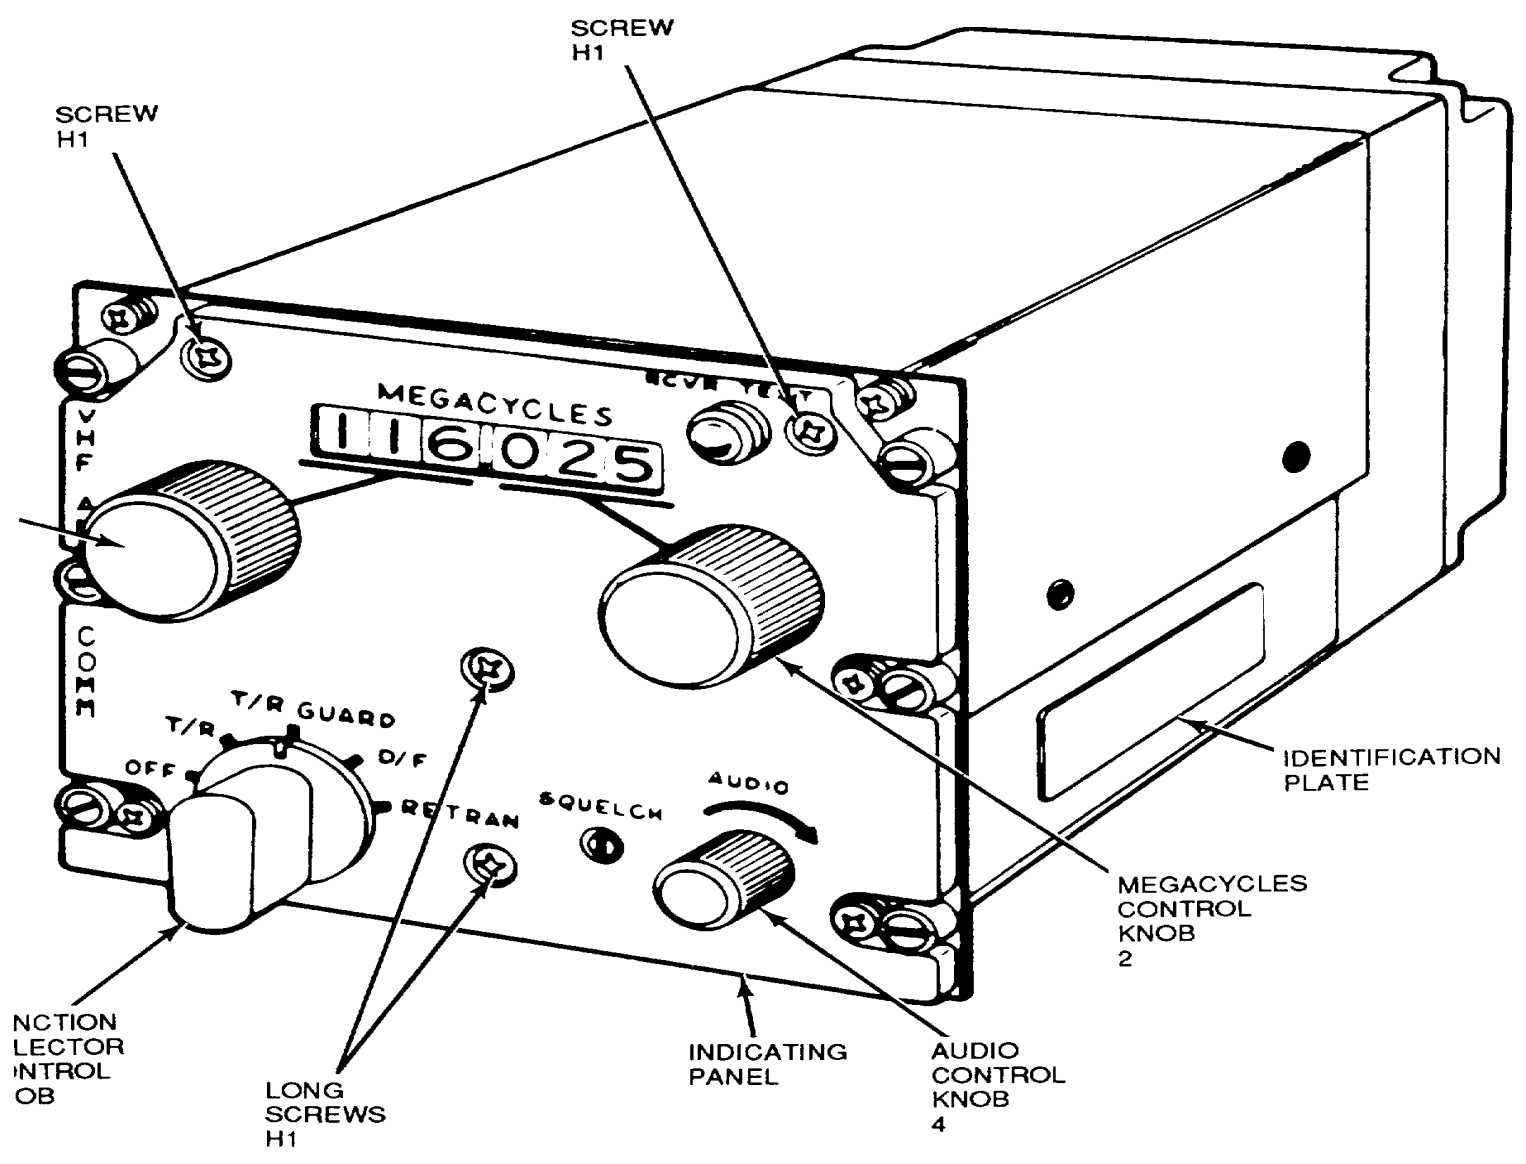

Figure 1. Location of Front Panel Controls and Attaching Hardware
- (1) Loosen two setscrews in each of the following control knobs. Remove knobs and seals from their respective control shafts (see figure 1).
- (a) The left MEGACYCLES control knob (item 1)
- (b) The right MEGACYCLES control knob (item 2)
- (c) The function selector control knob (item 3)
- (d) AUDIO control knob (item 4)
- (2) Remove four screws and lockwashers (H1, figure 1) from the indicating panel. Set screws and lockwashers aside for reuse during reassembly of end item.
- (3) Carefully remove indicating panel from radio set chassis to expose internal wiring.
- (4) Unsolder wire No. 001 from the terminal stud on the inside surface of the circuit board and lamp assembly. Tag and mark the wire.
- (5) Unsolder wire No. 002 from the terminal stud on the inside surface of the circuit board and lamp assembly. Tag and mark the wire.
- (6) Remove the indicating panel assembly and set aside for return to the Depot for disposition.
- (7) Place new ANVIS panel assembly in close proximity to front of radio set to allow resoldering of the wires to the terminal studs.
- (8) Solder wire No. 002 to one of the terminal studs on the rear surface of the ANVIS panel assembly. Wire can be soldered to either terminal stud.
- (9) Solder wire No. 001 to the other terminal stud on the rear surface of the ANVIS panel assembly.
- (10) Carefully place or push wires 001 and 002 into the chassis recess as the ANVIS panel assembly is placed on the front chassis.
- (11) Install the new ANVIS panel assembly to the radio set using four screws and lockwashers (H1, figure 1). Replace any missing or damaged screws or lockwashers. Use the two longer screws at the center and at the bottom of the indicating panel assembly.
- (12) Install knobs onto the following controls using two setscrews for each knob. Refer to figure 1.
- (a) AUDIO control knob (item 4)
- (b) The function selector control knob (item 3)
- (c) The right MEGACYCLES control knob (item 2)
- (d) The left MEGACYCLES control knob (item 1)
- (13) Install new ANVIS identification plate to radio set aft of old identification plate. Do not remove old identification plate.